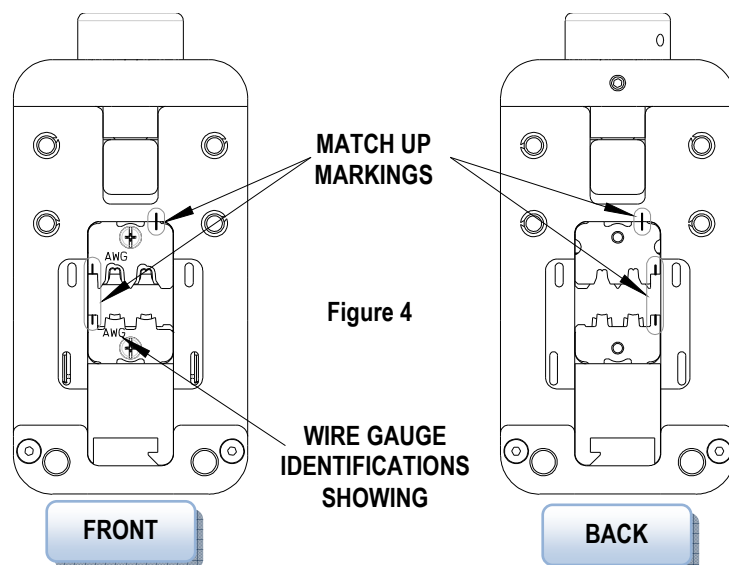

Figure 4
4. Make sure the small markings on the individual dies match up and wire gauge identification (AWG) marks should be facing out and aligned as shown in Figure 4.